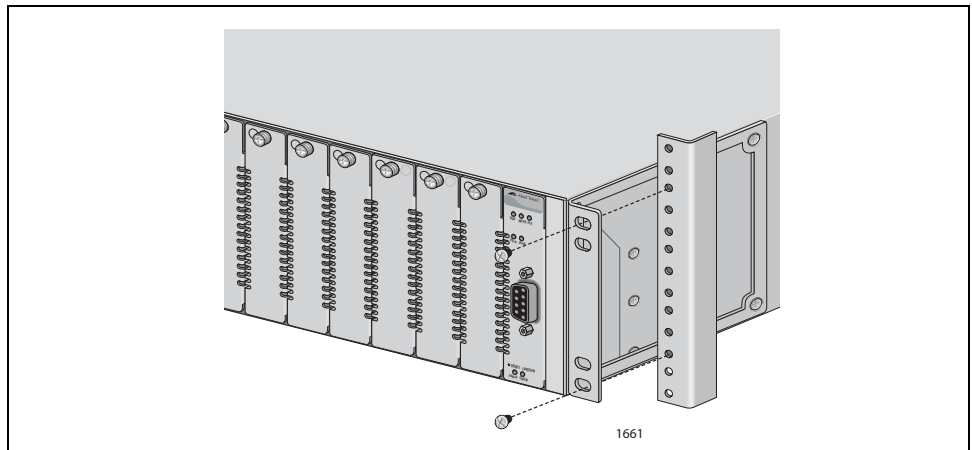

Figure 9. Mounting the AT-CV5001 Chassis in a 19-inch Equipment Rack
5. Mount the chassis in the equipment rack using appropriate screws (not provided), as shown in Figure 9.